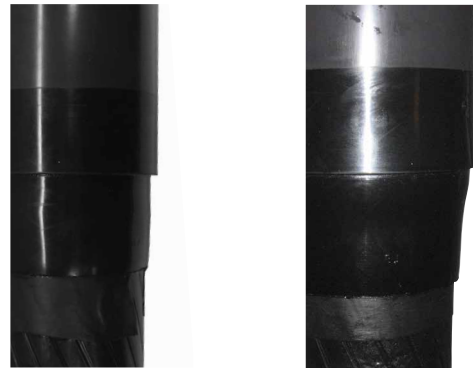

Figure 10. Cross sectional view of cable adapter positioning.
- After sliding the cable adapter into position make sure that no bulge is present. (Refer to Figure 10.)
Note: The end of the cable adapter must line up with the top edge of the tape marker after T-body assembly. Refer to Figure 10.